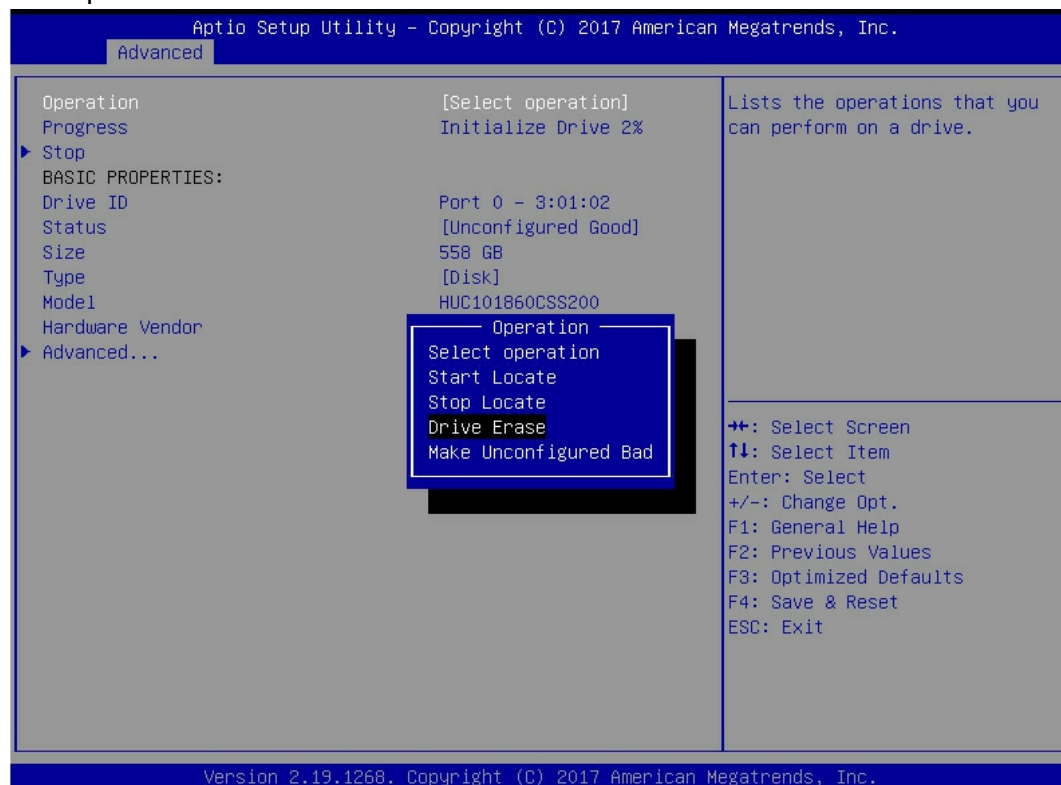

Figure 6-79
c) Enter the interface shown in figure 6-79, select operation, press enter, and then select drive erase in the pop-up dialog box and press enter.
✧ Figure 6-79 operation interface